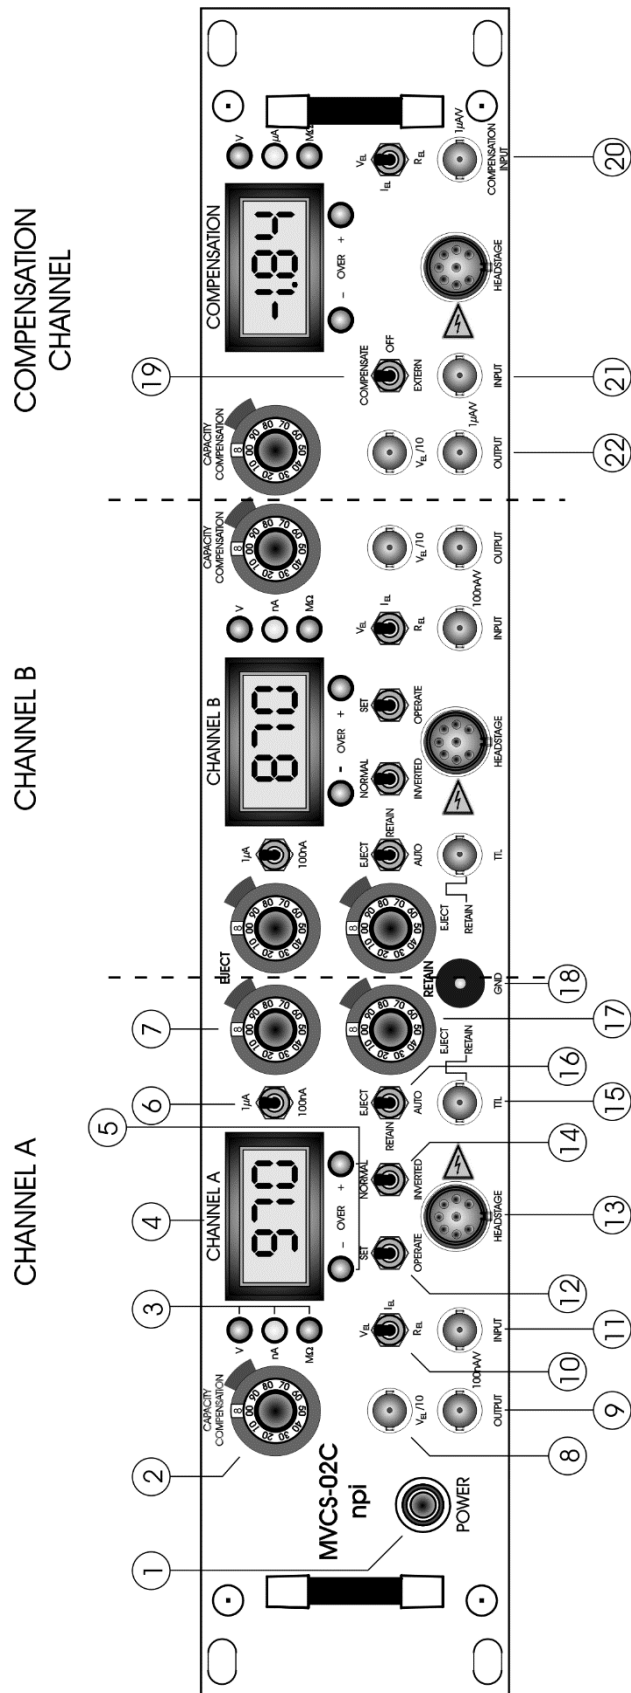

Figure 1: MVCS-C-02C front panel view (the numbers are related to those in the text below)
In the following description of the front panel elements, each element has a number that is related to that in Figure 1. The number is followed by the name (in uppercase letters) written on the front panel and the type of the element (in lowercase letters). Then, a short description of the element is given.
Figure 1 shows the MCVS-C-02C (fast system) with capacity compensation and the automatic electrode resistance test facility. These two features are not present in the MVCS-02C (slow system). In the slow system the CAPACITY COMPENSATION potentiometer is not installed and the function of R_{EL} is somewhat different (see below).
- MVCS-C: Connect the headstages to the HEADSTAGE connectors (#13, Figure 1) at the front panel.